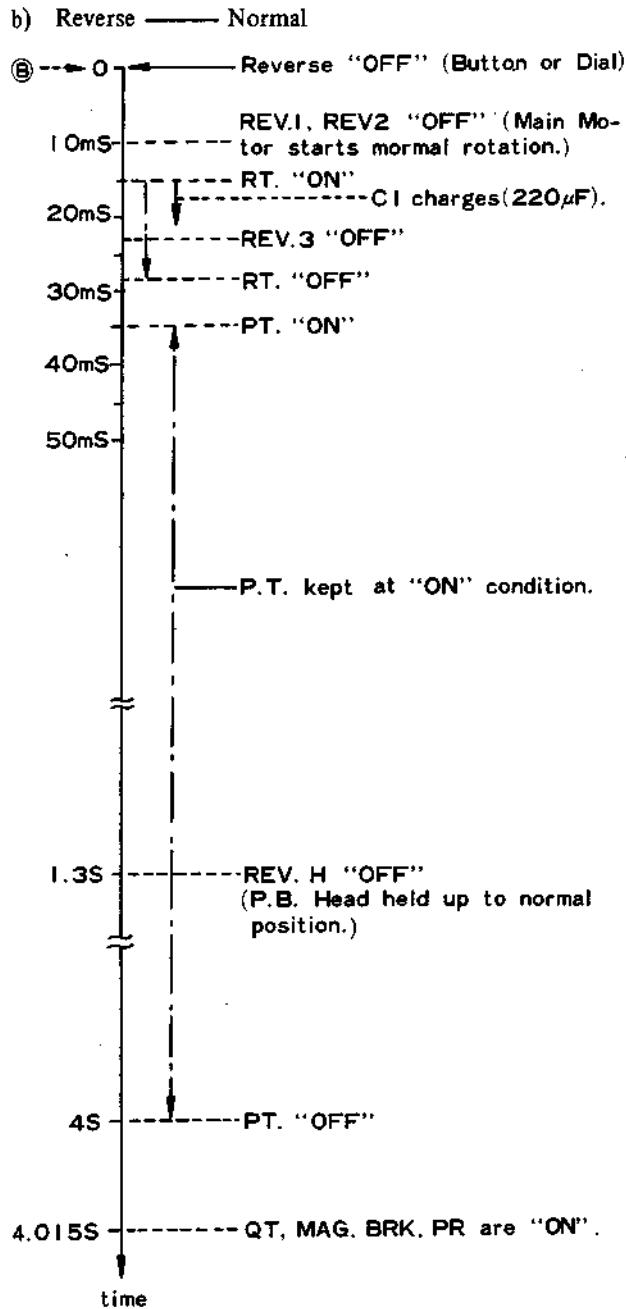

Fig. 9
Reverse Circuit current is cut off at point (B), but REV1 and REV2 remain engaged for approximately 10 milliseconds. As REV1 is disengaged, the Main Motor starts rotating in the Normal direction. When the current in the Reverse Circuit is cut off, the 33 µF Condenser, which in series connects to the RT Relay and charged during Reverse Play, is discharged through the RT Relay Coil and the 650 Ω Resistor. The Discharge Time is about 28 milliseconds. Thus, the RT Relay remains engaged approximately 13 milliseconds. (See Figure 9) RT1 normally open contact is closed and Condenser C1 (220 µF) is charged in approximately 5 milliseconds.